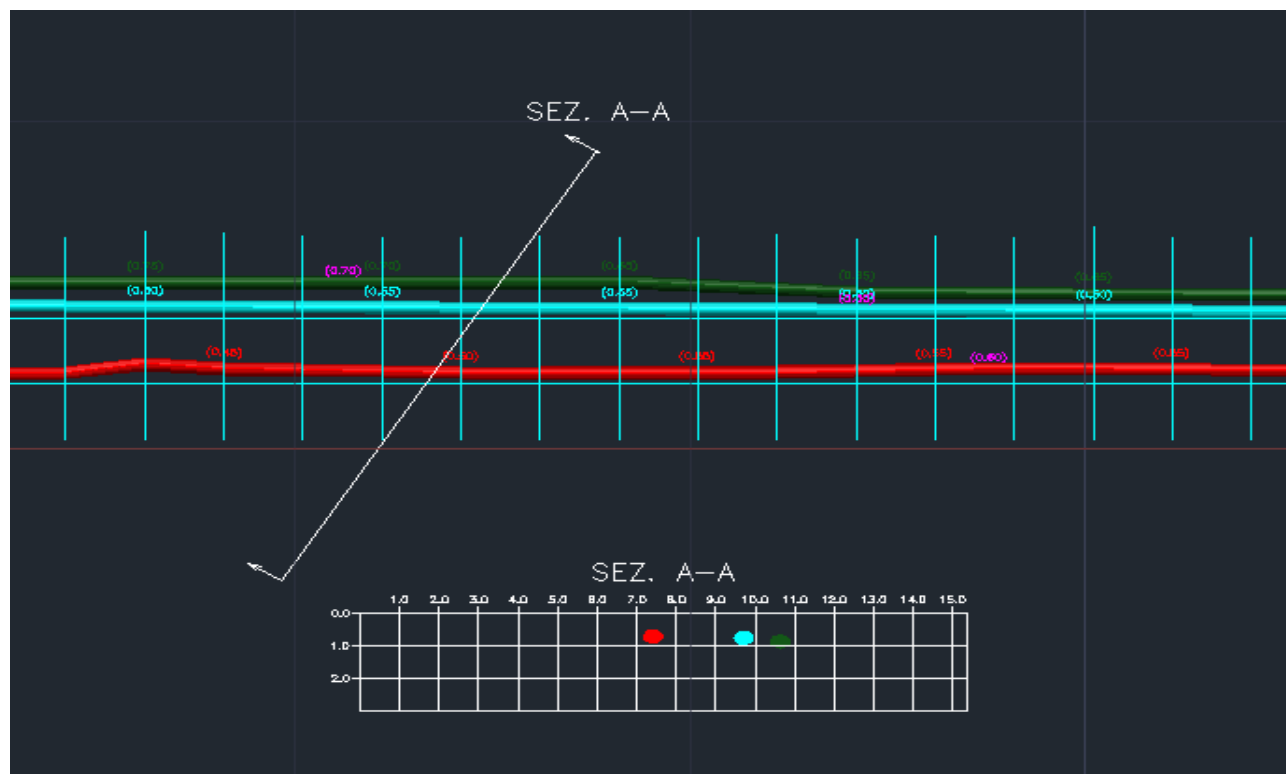
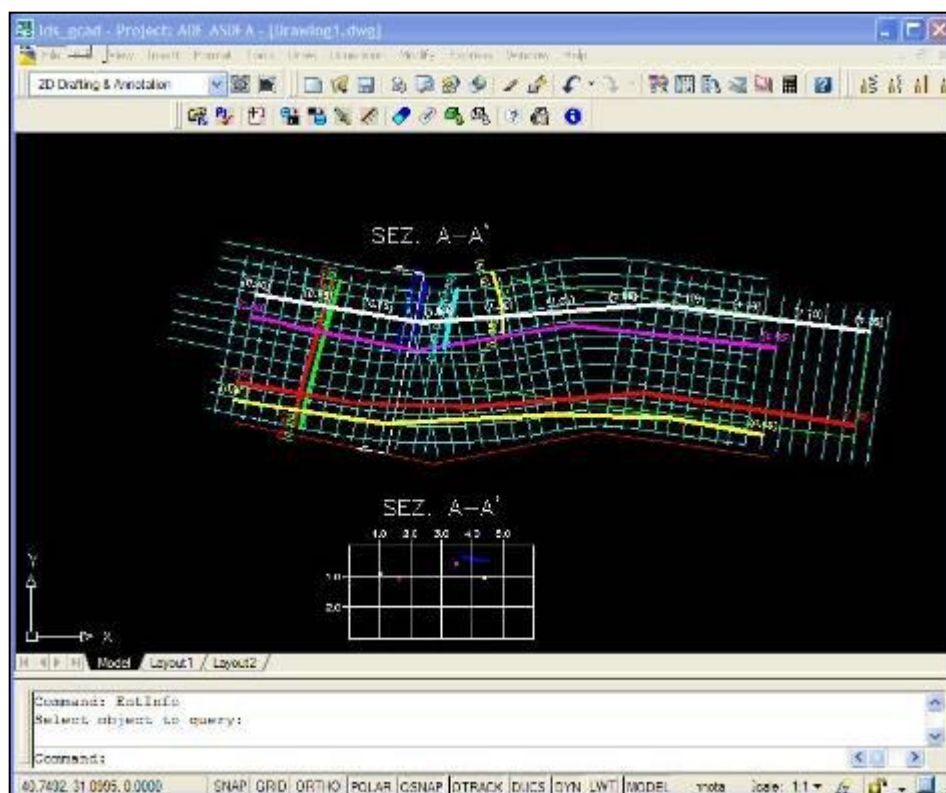

Fig. 3.4 - A-A Section across three horizontal targets
Fig. 3.5 – XY representation of targets
In Fig. 3.4 you can see a section NE – SW oriented that intersects targets (3) Est – West oriented; in the following image (Fig. 3.5) you visualize a XY map with all targets located in the area.